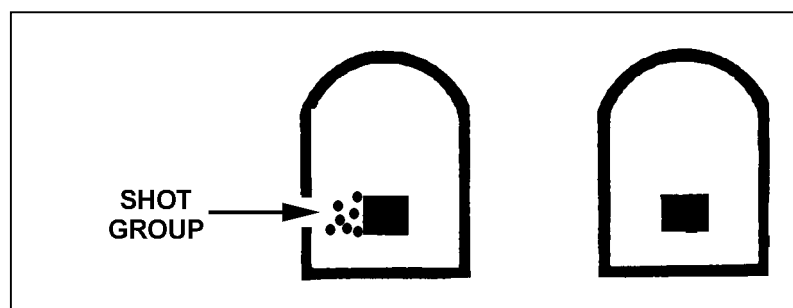
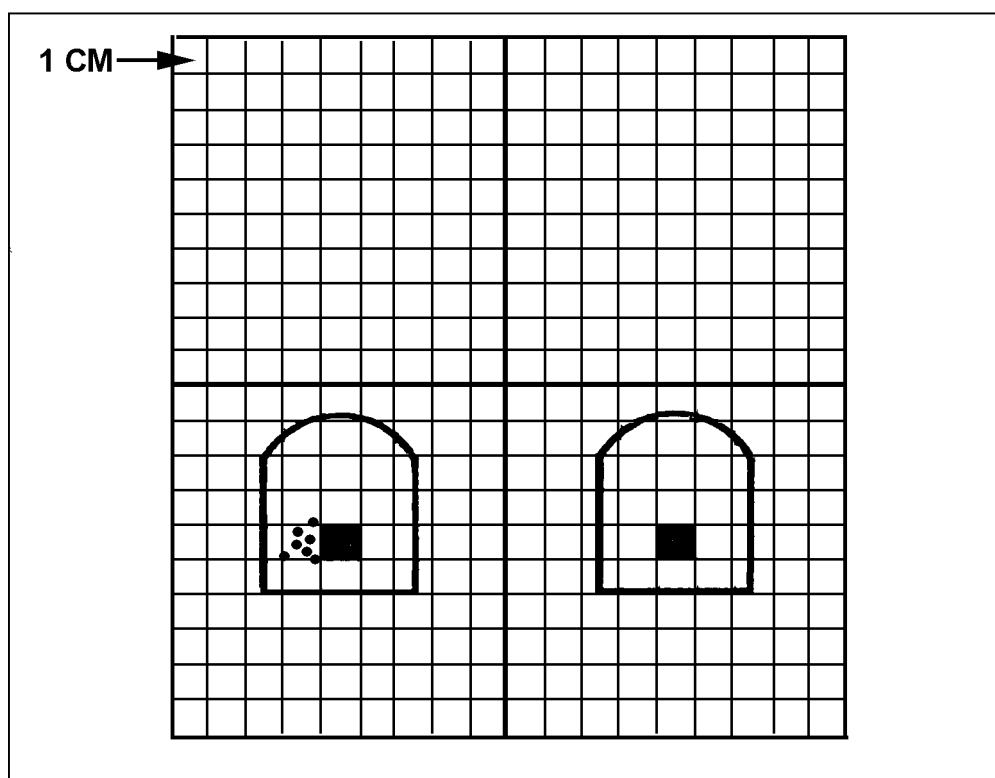

Figure 4-15. Shot group on basic machine gun target.
Figure 4-16. Overlay placed over pasters.
(1) Sets the sights for 10-meter zeroing, then fires three single rounds to form a three-round shot group. Re-lays on the target using the T&E mechanism.
(2) After firing the three-round shot group (Figure 4-15), places the grid square overlay over the pasters (1 and 2) (Figure 4-16) and counts the number of clicks it will take for rounds to impact on the black aiming paster. (Corrections for Figure 4-16 would be turn the traverse handwheel to the right one click.)